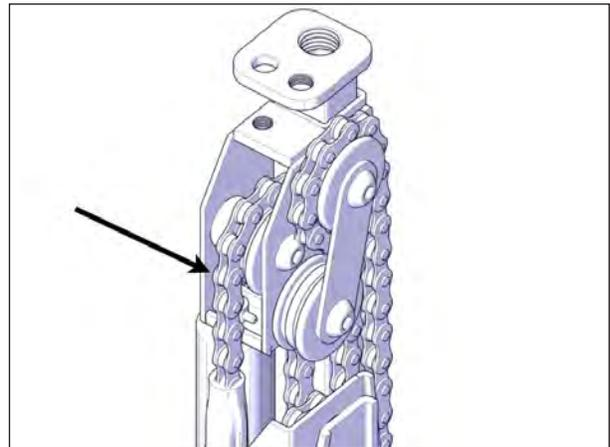

FIGURE 128: JACK CHAINS
8. Inspect the chains for signs of deterioration. If this is the case, please call your local Covana dealer immediately, see Figure 128.